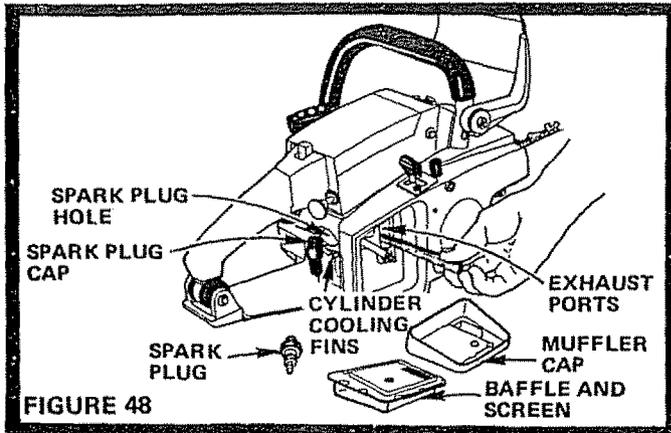

FIGURE 48
Check air flow over the engine cylinder. If restricted by debris, remove Muffler and clean engine and Cylinder Cooling Fins (Fig. 48). Compressed air can be used. Replace Muffler.
1. Remove Muffler Cap, Baffle and Screen. Lift Spark Plug Cap and remove Spark Plug (Fig. 48).
2. Remove Spark Plug Cap and Spark Plug (Fig. 48). Tie a knot in a nylon cord (such as a Starter Rope). Drop knotted end of rope into cylinder so engine will not go past top dead center.